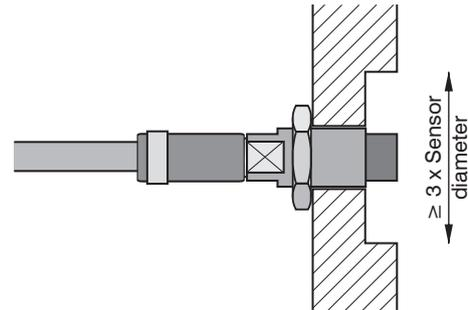

Fig. 10 Flush mounting of an unshielded sensor in a metal holder.
- ➡ Mount the unshielded sensors flush in a metal sensor holder. Make sure that a recess of a size three times the sensor diameter is used, see Fig. 10.